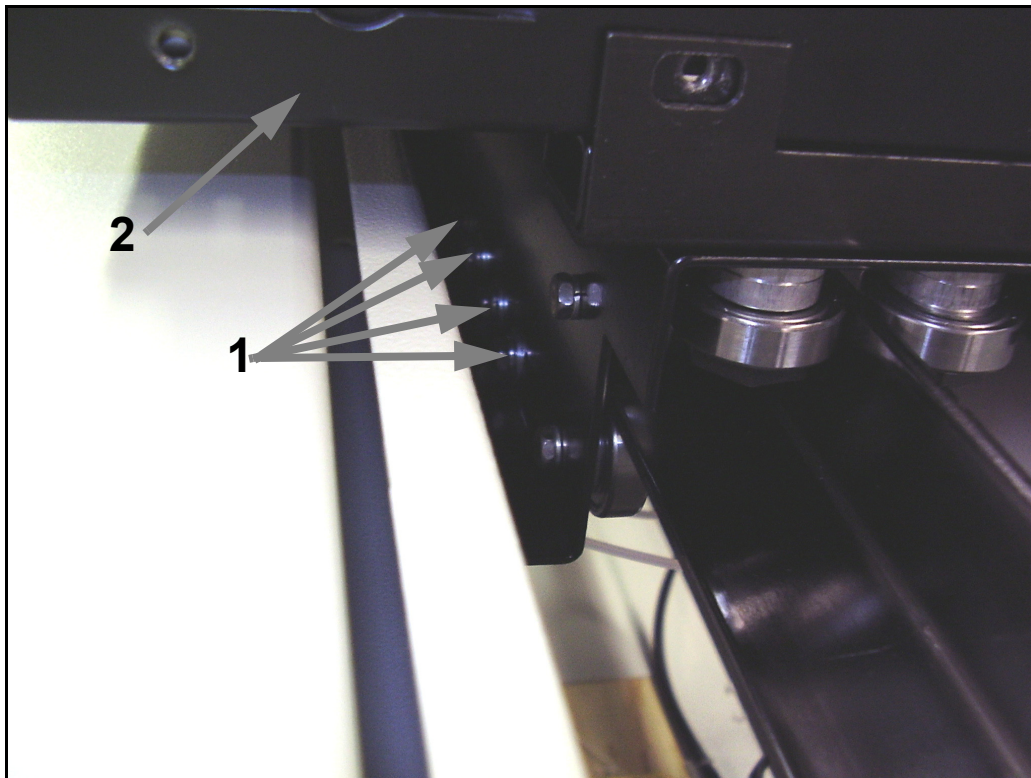

Figure 6-20. Bucky Lock Mounting Screws
- 7 Unscrew the lock screws (1 in Figure 6-20) and remove the locks. You will have to lift the bucky (2) up to access the screws.